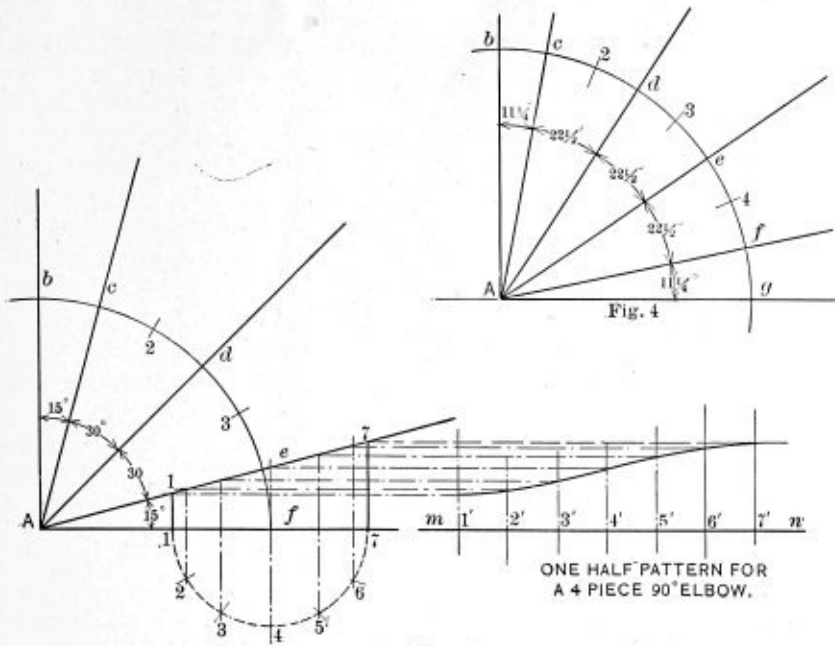

Fig. 3
A.—The construction in Fig. 3 is a method that can be applied in development of any plain 90 degrees cylindrical elbow. Draw lines  $A b$  and  $A f$  at right angles to each other. Locate the center of the elbow on either of these lines, and with  $A b$  as a radius describe an arc. Divide this arc into equal divisions, one less than the